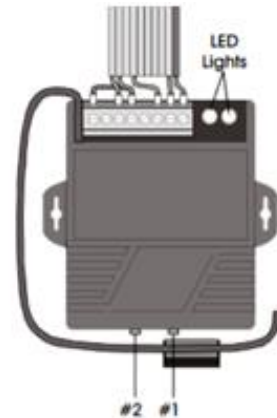

Figure 15
1. Press #1 on the wireless receiver and hold for three seconds. The green LED light on the back of the wireless receiver will start blinking (Figure 15)
3. Press #2 on the wireless receiver and hold for three seconds. The red LED light on the back of the wireless receiver will start blinking (Figure 15)
1. Press #1 on the wireless receiver and hold for three seconds. Release and press #1 again for three seconds. The code has been deleted. (Figure 15)
2. Press #2 on the wireless receiver for three seconds. Release and press #2 again for three seconds. The code has been deleted (Figure 15)